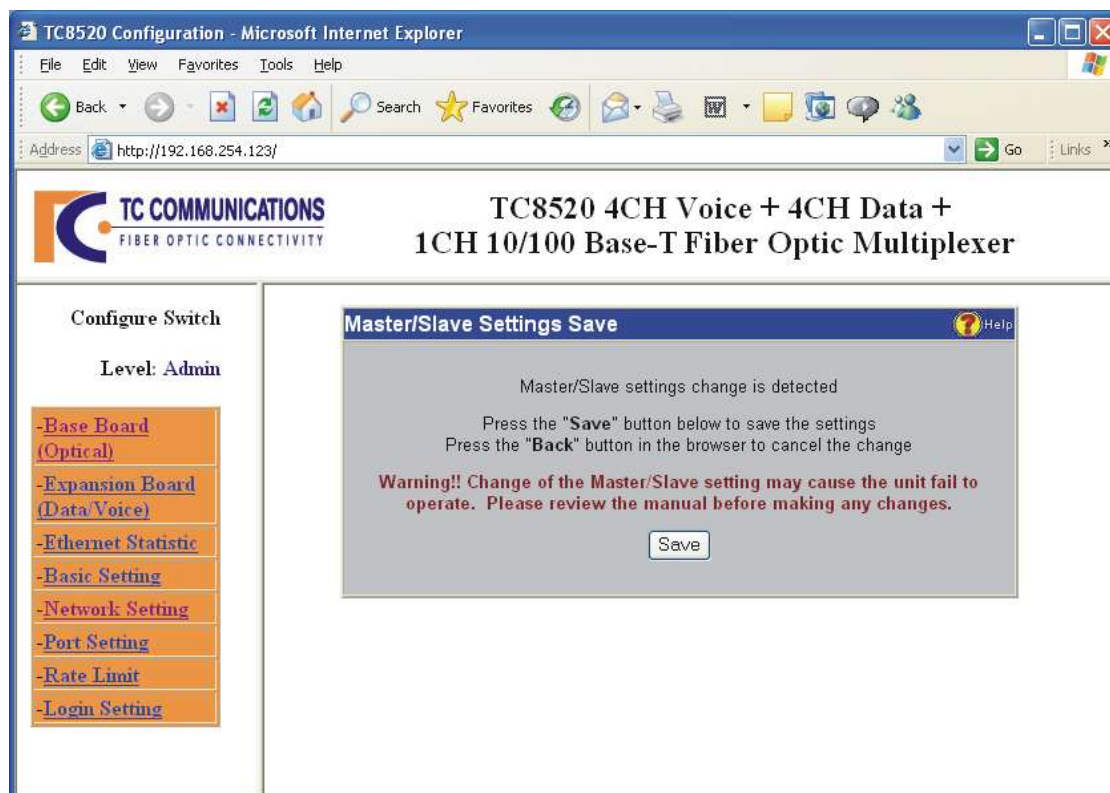

Figure 23. TC8520 Slave Configuration
- a) A dialog box as in Figure 23 will prompt you to save the settings. Click the "save" button to save the settings.